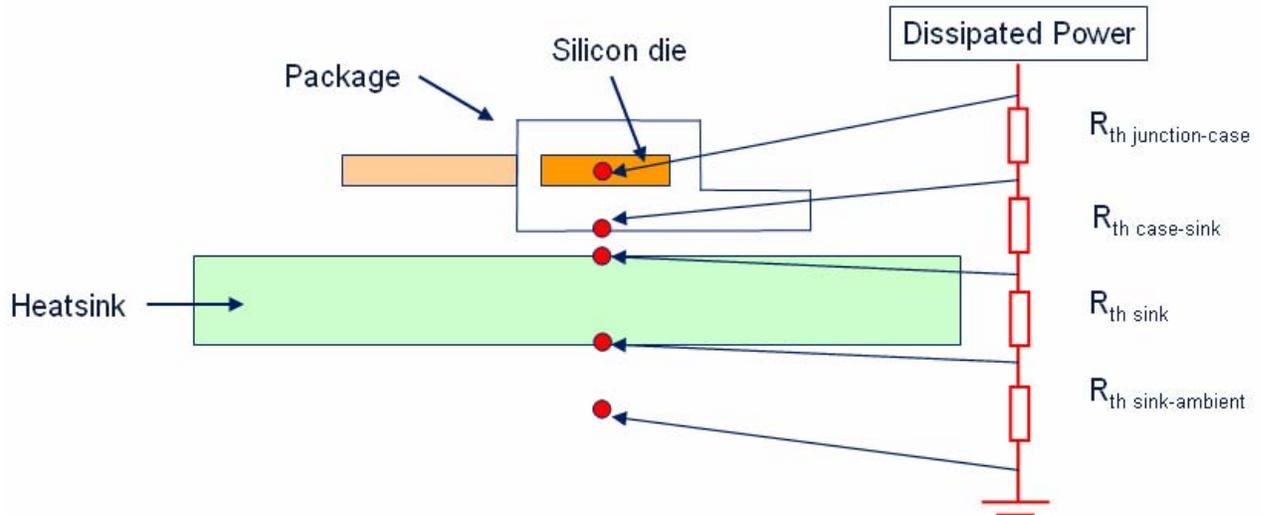

Figure 4: Thermal model
The overall thermal performance of a package with a heatsink is characterized by a junction to ambient thermal resistance R_{thJA} . The R_{thJA} can be calculated with equation (1) (see Fig. 4).